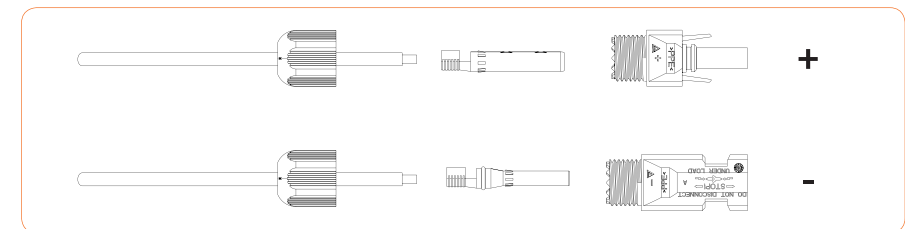

Figure 4-10
- ③ Disassemble the connector in the accessory bag, as shown in Figure 4-10: